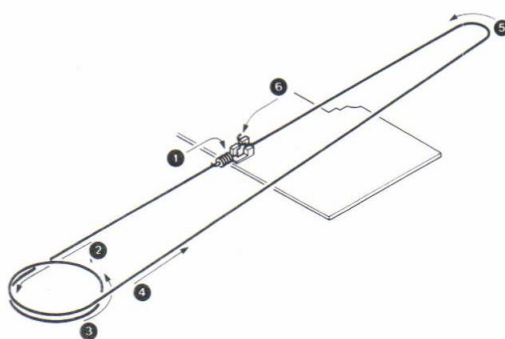

Fig. 17
3. Install the Strings (29) as shown in figures 17 and 18.